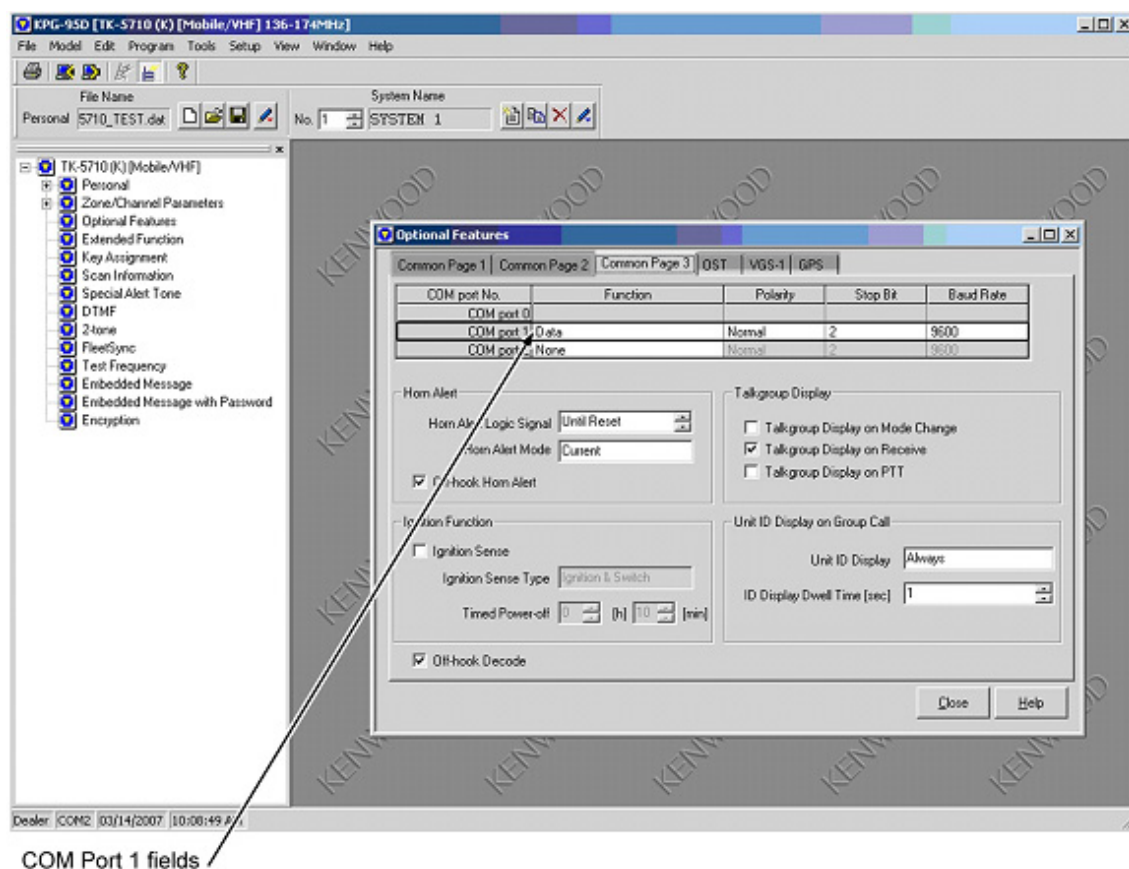

FIGURE 19. Optional Features Window
**NOTE:** Use Figure 19 with the following instructions.